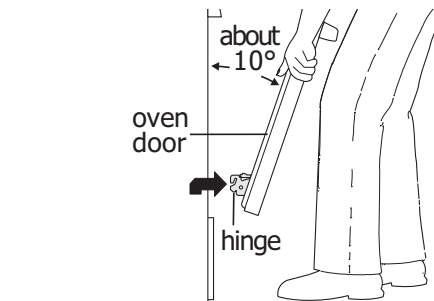
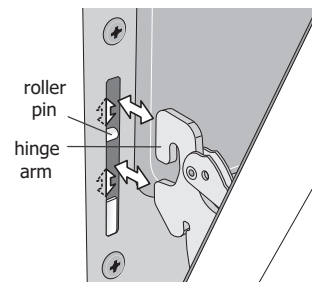

Figure 41: Holding door for removal
Figure 42: Replacement and location of hinge arm and roller pin
3. Firmly grasp both sides of oven door along the door sides. Do not use the oven door handle (See Figure 41).
4. Close the door to approximately 10 degrees from the door frame (See Figure 41).
5. Lift the oven door hinge arms over the roller pins located on each side of the oven frame (See Figure 42).
1. Firmly grasp both sides of oven door along the door sides. Do not use the oven door handle (See Figure 41).
2. Holding the oven door at the same angle as the removal position, seat the hook of the hinge arm over the roller pins located on each side of the oven door frame (See Figure 41 and Figure 42). The hook of the hinge arms must be fully seated onto the roller pins.